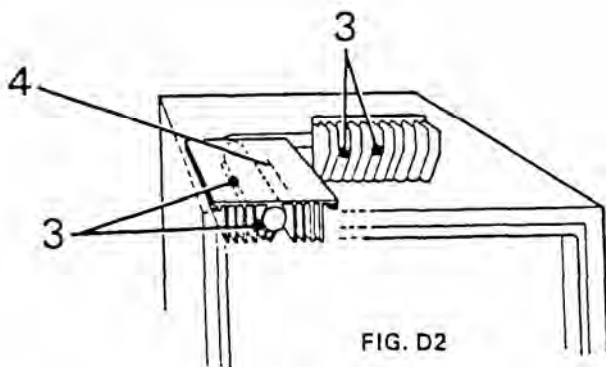

FIG. D2
3. Remove screws and take out evaporator fins and shelf (FIG. D2).
4. Release holding clamp for thermostat capillary tube and pull tube out gently (FIG. D2).